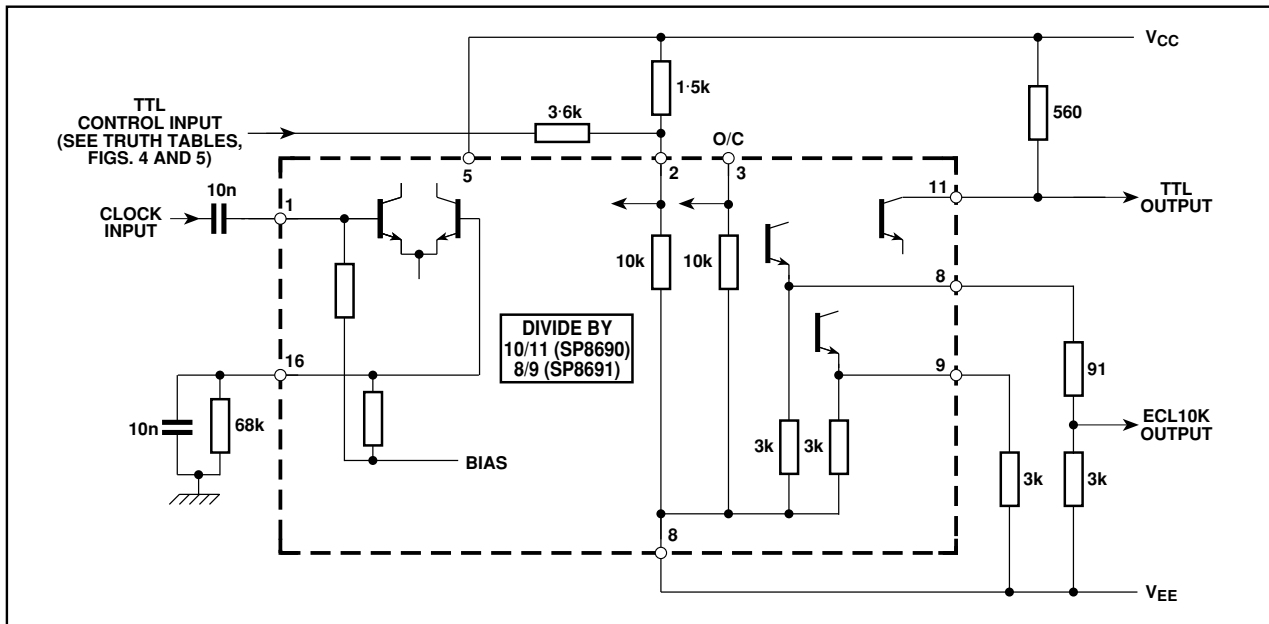

Fig. 9 Typical application showing interfacing.
4. The Q₄ and Q₄ outputs are compatible with ECLII but can be interfaced to ECL10K as shown in Fig. 9.